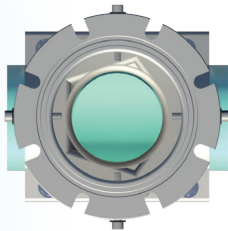

Figure 8
11) Check inside of valve body outlet to ensure gasket is properly seated. Completion pins are shipped in the fully installed position. Backout and ensure completion pins are flush with I.D. of the flange (see Figures 8 and 9).